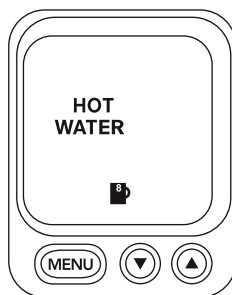

figure 12
5. Press Hot Water. While the Hot Water cycle is in progress, only the Hot Water button will be lit. The control panel will display the words HOT WATER, as well as the serving size you selected (see figure 12).